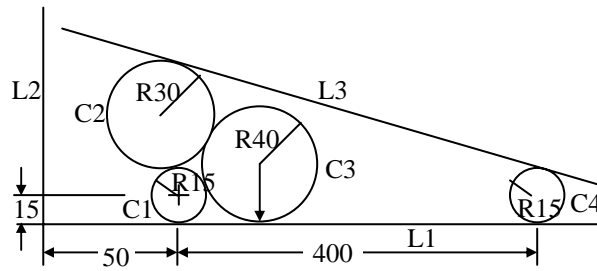

Fig. 3
b) Write APT geometry to define lines and circles shown in Fig.3.